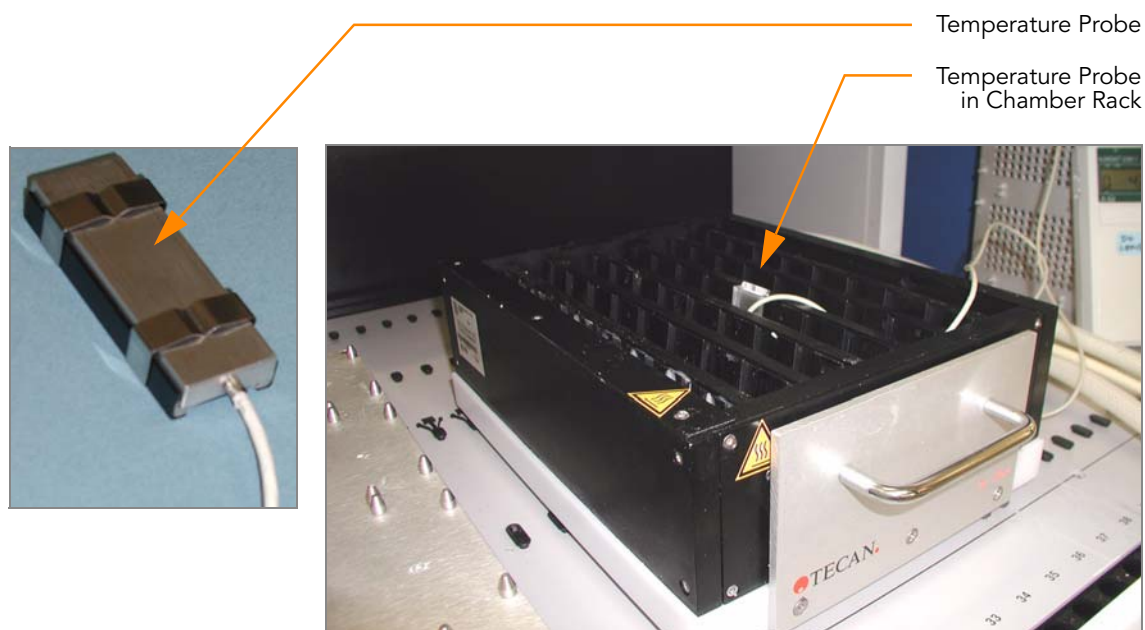

Figure 156 Illumina Temperature Probe in Chamber Rack
5. Use the Illumina Temperature Probe in several locations to ensure that the Chamber Rack is at 44°C (Figure 156).